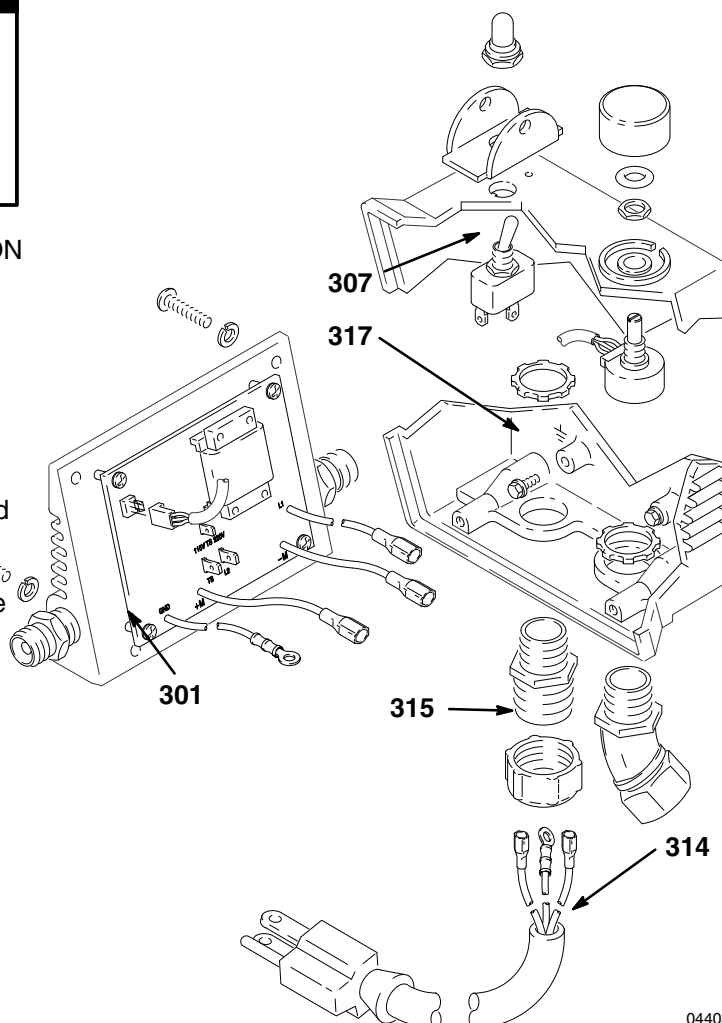

Fig. 15
Power Supply Cord Replacement (Fig. 15)
2. Remove the pressure control board/cover (301).
3. Disconnect the two wires from the ON/OFF switch (307). See Fig. 15.